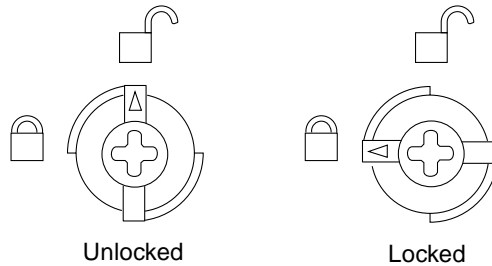
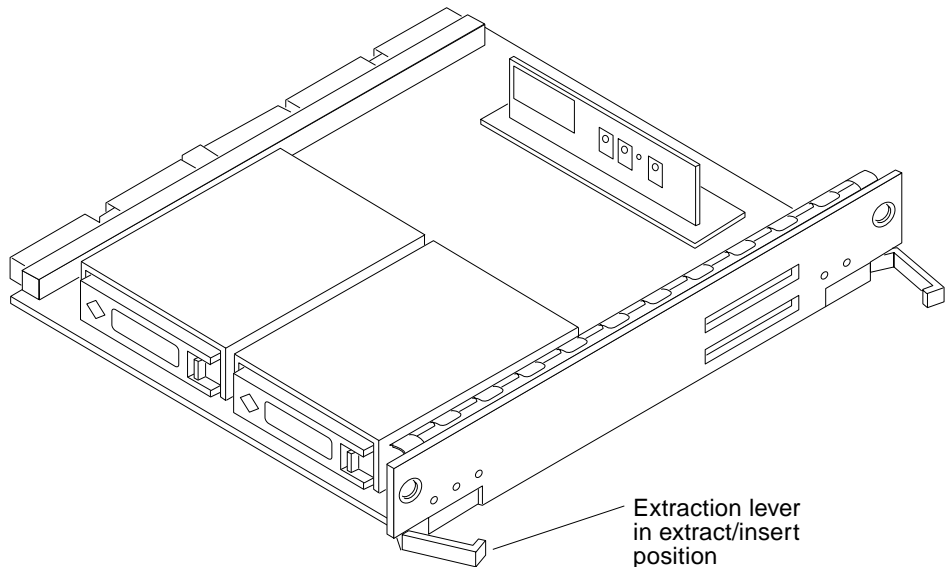

FIGURE 5-4 Unlocking and Locking Quarter-Turn Access Slots
FIGURE 5-5 Disk Board
Insert the screwdriver into each quarter-turn access slot (the slots are located on the left and right sides of the board's front panel) and then turn a quarter turn so that the arrow points to the unlocked position (FIGURE 5-4).
4. Pull the ends of both extraction levers outward simultaneously to unseat the board centerplane connector from the centerplane receptacles (FIGURE 5-5).
Insert the screwdriver into each quarter-turn access slot (the slots are located on the left and right sides of the board's front panel) and then turn a quarter turn so that the arrow points to the unlocked position (FIGURE 5-4 on page 5-7).
See FIGURE 5-5 on page 5-7.
See FIGURE 5-4 on page 5-7 and FIGURE 5-5 on page 5-7. The board will not seat fully unless the levers are in this starting position and both quarter-turn access slots are unlocked.
See FIGURE 5-4 on page 5-7.